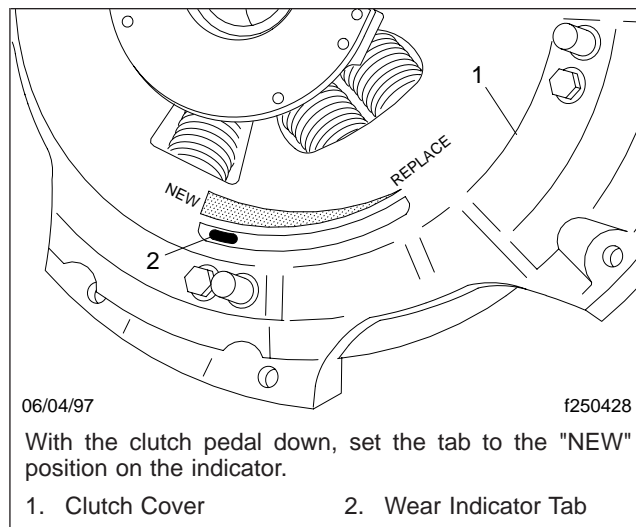

Fig. 7, Resetting the Wear Indicator Tab
- With the pedal held down, move the wear indicator tab to the left (NEW) position. See Fig. 7.